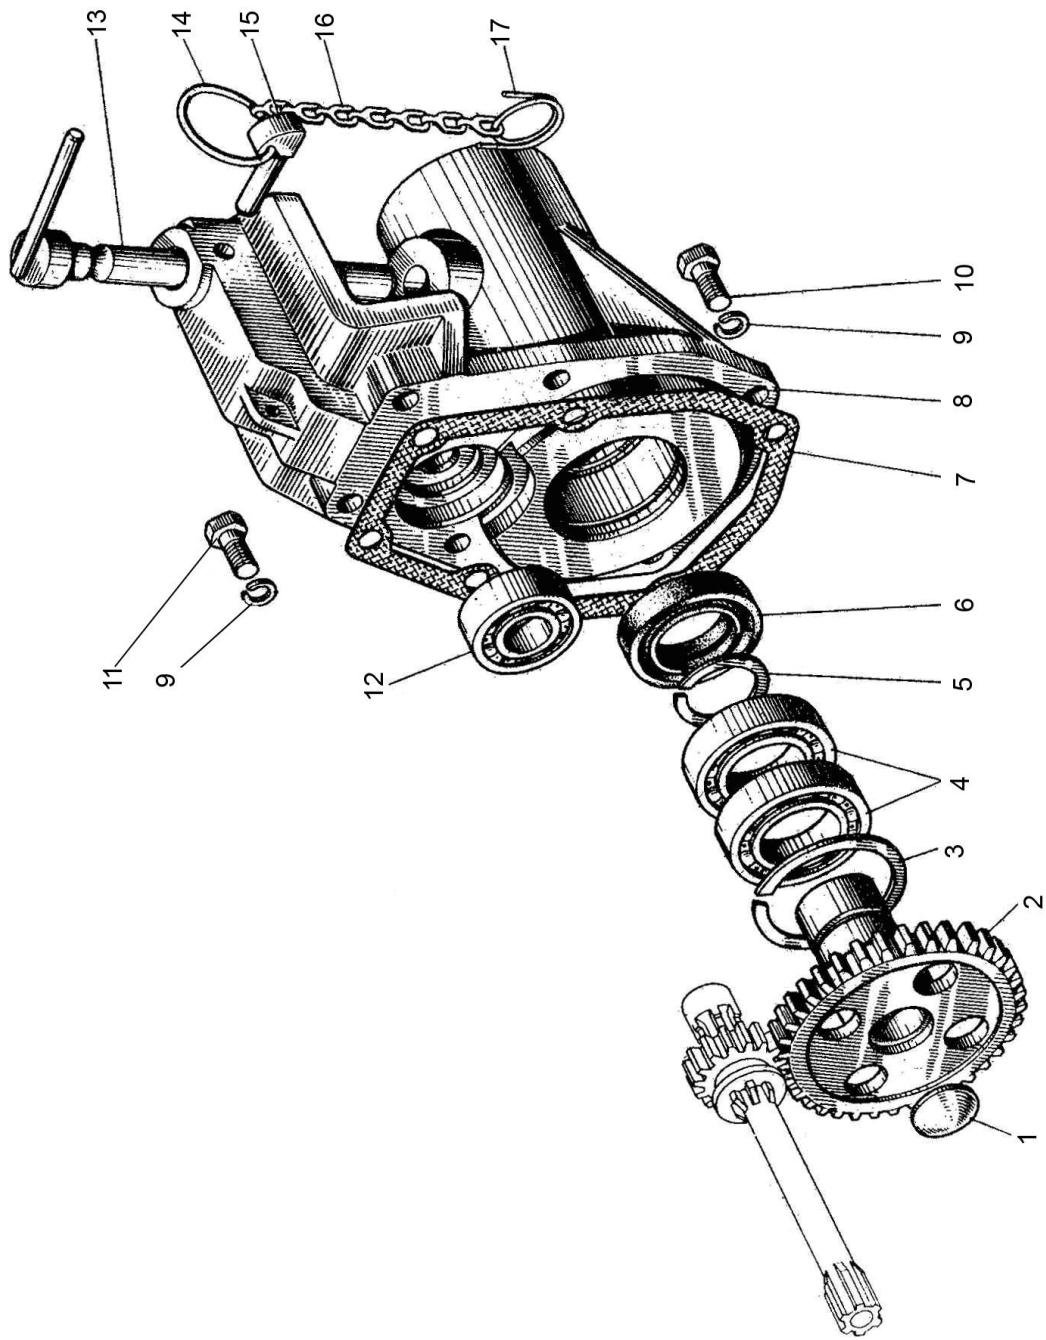

Figure 10 – Power takeoff shaft and drawbar hitch
**05-4202. Power takeoff shaft and drawbar hitch (figure 10)**